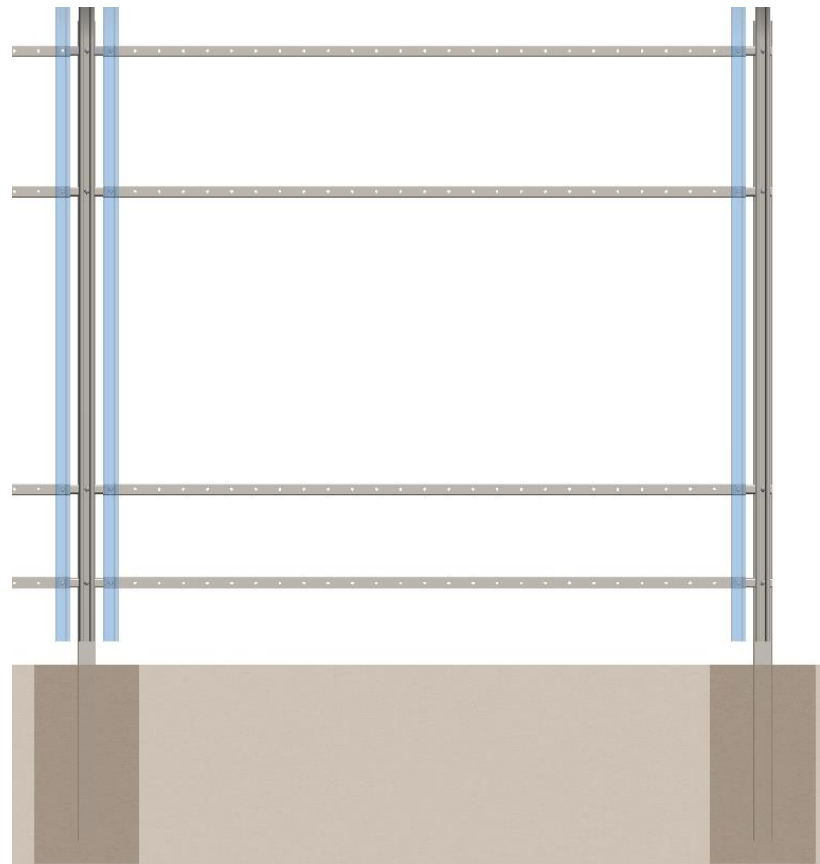

Figure 8
- Mount the 1st Pales, in either direction (left to right/or right to left) as shown. (Fig. 8)